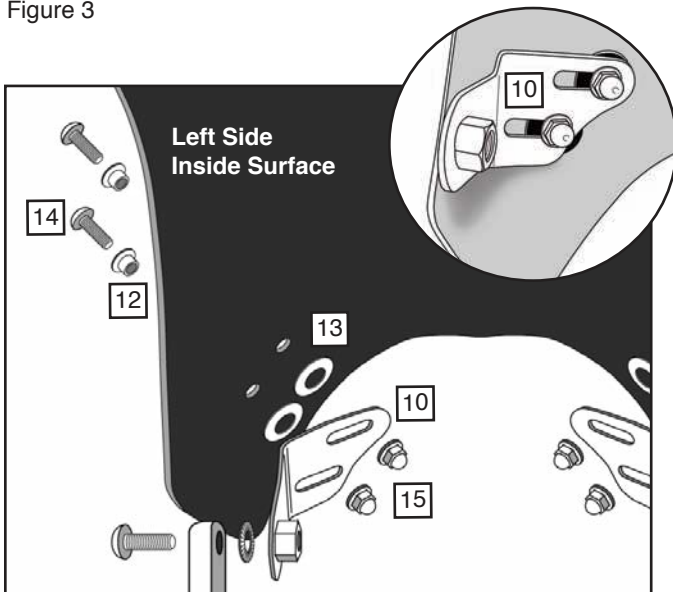

Figure 4
6. Install 1, Washer (13) over each hole in the Screen. **Figure 4**
7. Select the Left Bracket (10) and install to the Left, Inside surface of the windscreen using 2, Collars (12), 2, Screws (14) and 2, Nuts (15). **(4mm Hex Wrench and 10mm Socket) Figure 4.**